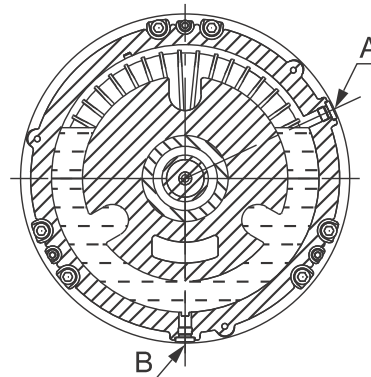

Fig. 2 SL pump, horizontal view
2. Place the pump in a horizontal position on a plane surface with plug B pointing downwards. See fig. 2.
1. Place the pump in horizontal position with plug B mounted and facing downwards. Fill the shaft seal housing with motor liquid through hole A until the motor liquid reaches the level indicated in fig. 2. See also section 7.2 Motor liquid quantities.